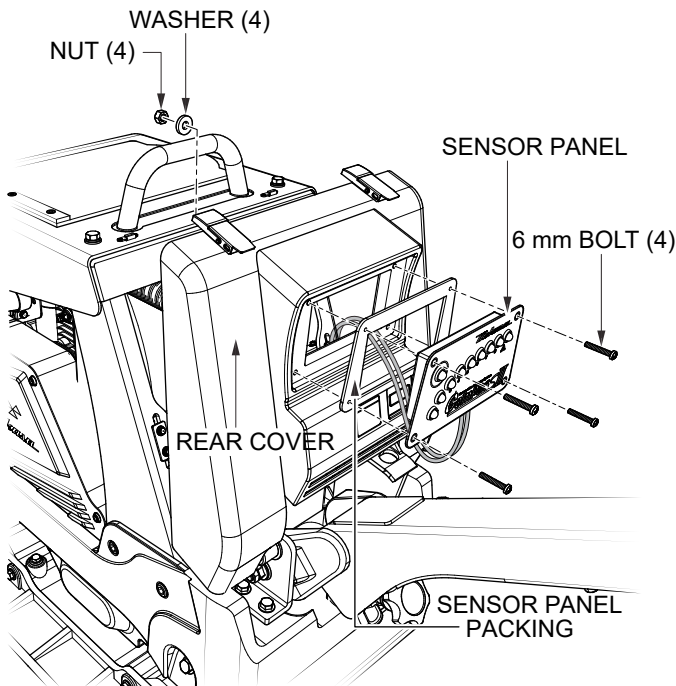

Figure 15. Sensor Panel Installation
- Place the sensor panel backing (P/N 464350510) onto the back of the sensor panel (P/N 467310020 [MVH308DE], or P/N 468310010 [MVH408DE]). See Figure 15.
- Place the sensor panel into the open space in the rear cover (Figure 15).
- Secure the sensor panel to the rear cover with the four 6 mm bolts, nuts, and washers that were removed earlier (Figure 15).